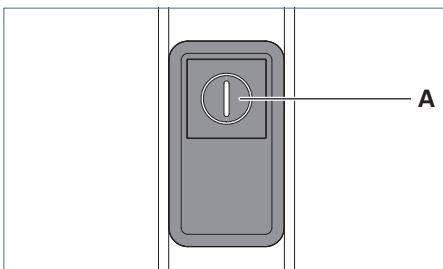

Fig. 18: Control element.
- ▶ Press the key **A** seven times quickly in succession, see Fig. 18.
- ▶ Press the key **A**, see Fig. 18.
- ▶ Press the key **A** and keep this key pressed, see Fig. 18.